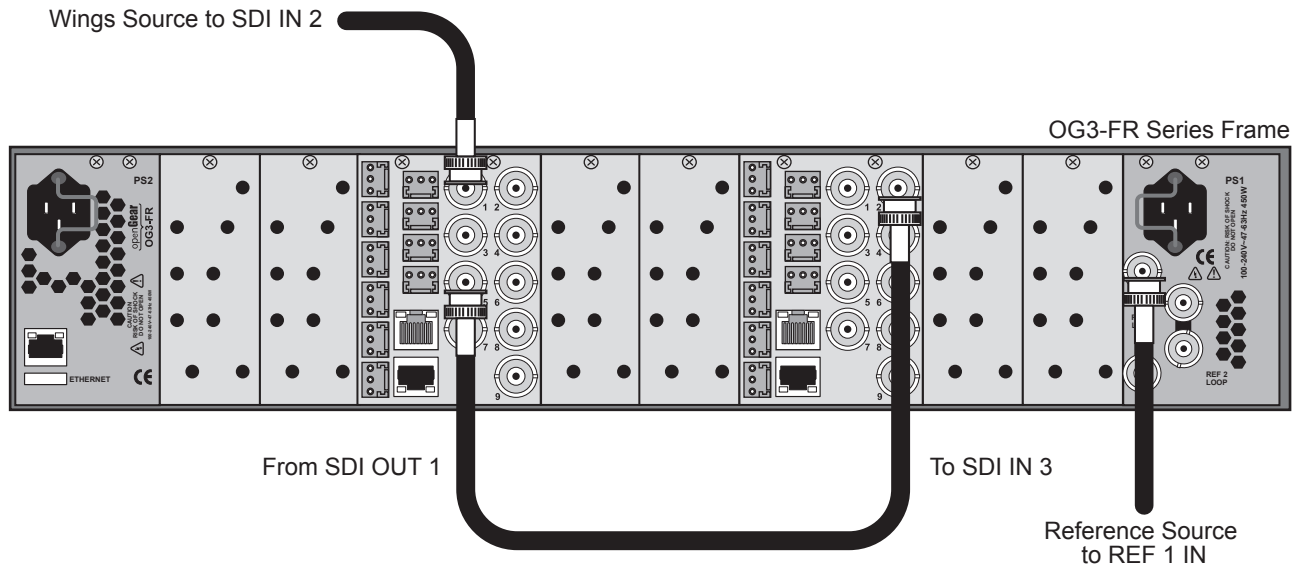

Figure 12.1 Cabling for the Cascade feature
In **Figure 12.1**, the rear module depicted on the left is for the **first** UDC-8625A-B while the rear module on the right is for the **second** UDC-8625A-B. Note that the slots that your rear modules are installed in may differ than what is presented here. Ross Video does not supply the required cables.
1. Connect an input video signals to **SDI IN 2** (BNC 1) on the first UDC-8625A-B. For simplicity, **Figure 12.1** depicts only one SDI input, but you may require more. Refer to the section “**UDC-8625A-B Cabling**” on page 2-12 for specific cabling designations.